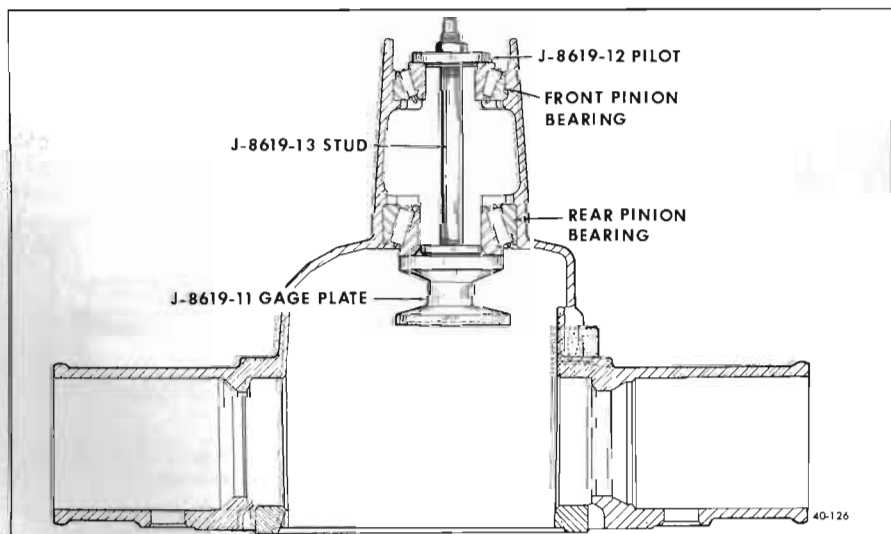

Figure 40-126—Pinion Gage Plate Installed in Carrier
6. Lubricate front and rear pinion bearings; then position them in their respective races in the carrier. While holding bearings in place, install Gage Plate J-8619-11 in carrier on rear pinion bearing inner race as shown in Figure 40-126 and place Pilot J-8619-12 on surface of front pinion bearing. Insert Stud J-8619-13 through pilot, front and rear bearings, and thread it into gage plate.